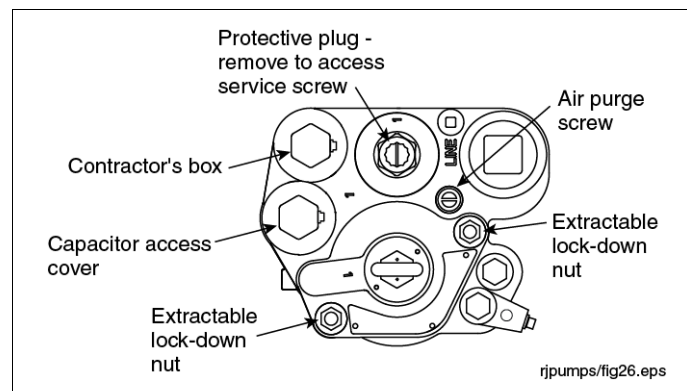

Figure 39. Extractable Lock-Down Nuts
2. Remove the two extractable lock-down nuts (see Figure 39). The springs on the lock-down studs between the extractable's flange and the manifold will push the extractable up, breaking the seals.